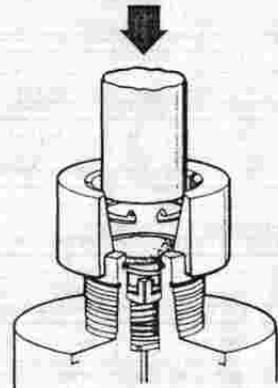

FIGURE 8
- Place the special high-pressure block guide (U.S.D. P/N 1110-00), recessed end downward, over the tip of the inlet boss of the first-stage body. Next, drop a new sintered filter (Item 20) with rough side facing upward into the spring block guide. Place a new retaining ring (Item 21), flat side upward, on top of the sintered filter. (See Figure 8).